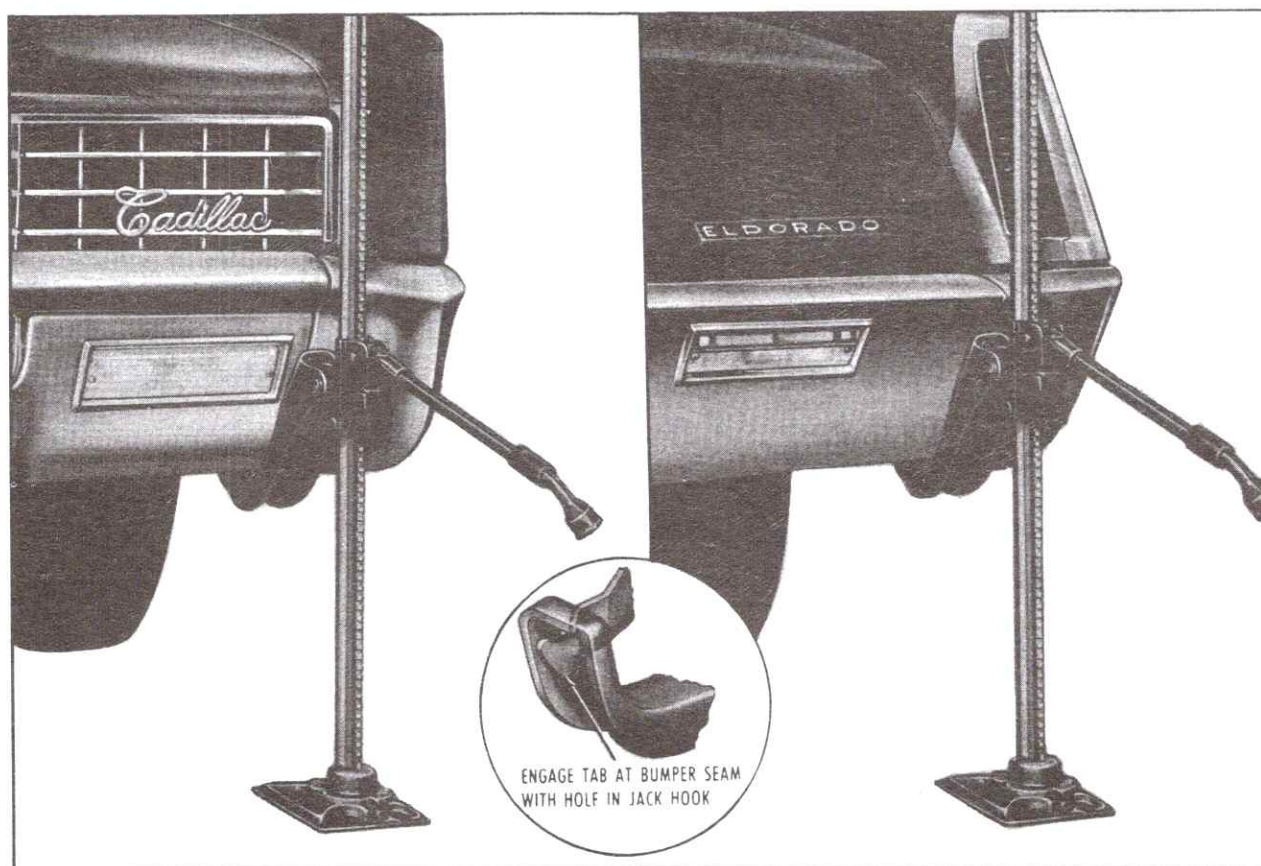

Fig. 10-4 Jack Position - Front and Rear Bumper (693 Only)
- a. When lifting front or rear end of Fleetwood Eldorado, position jack as shown in Fig. 10-4. Engage tab at bumper seam with hole in jack hook.